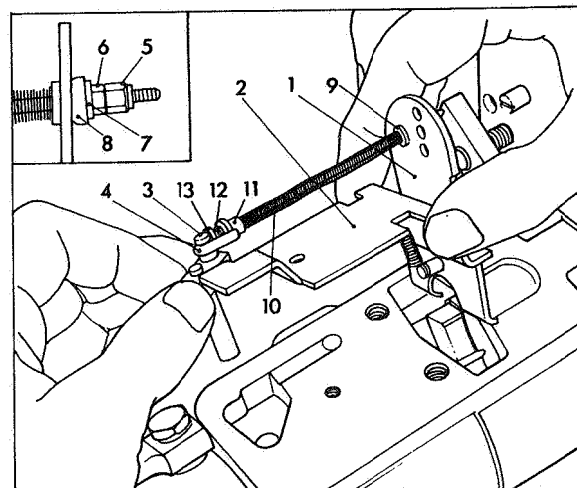

Fig 70 Removing governor linkage assembly
As shown in Fig 70 lift off as an assembly, governor arm (1) complete with control bracket (2), metering valve (3) and linkage hook assembly (4) and immerse in clean test oil. Dismantle governor spring linkage in the following sequence:— linkage locking nut (5), linkage nut (6), pivot ball washer (7), linkage pivot ball (8), linkage spring washer (9), long linkage spring (10), spring retainer (11), short linkage spring (12) and small spring retainer (13) from the linkage hook.